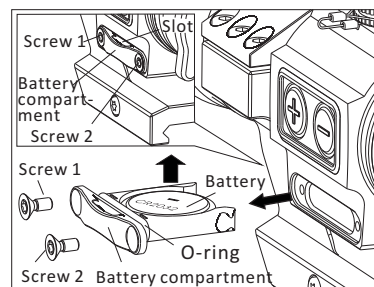

Fig2-1
- 1) Removing the battery (Fig 2-1):